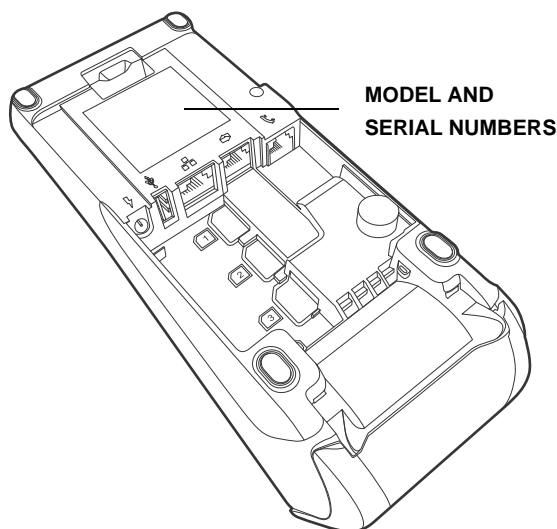

Figure 20 Information Labels on Unit
- 1 Gather the following information from the printed labels (see Figure 20) on the underside of each unit to be returned:
- Verifone serial number assigned to the unit you are returning for service or repair (serial numbers are located on the top of the unit, (see Figure 20).